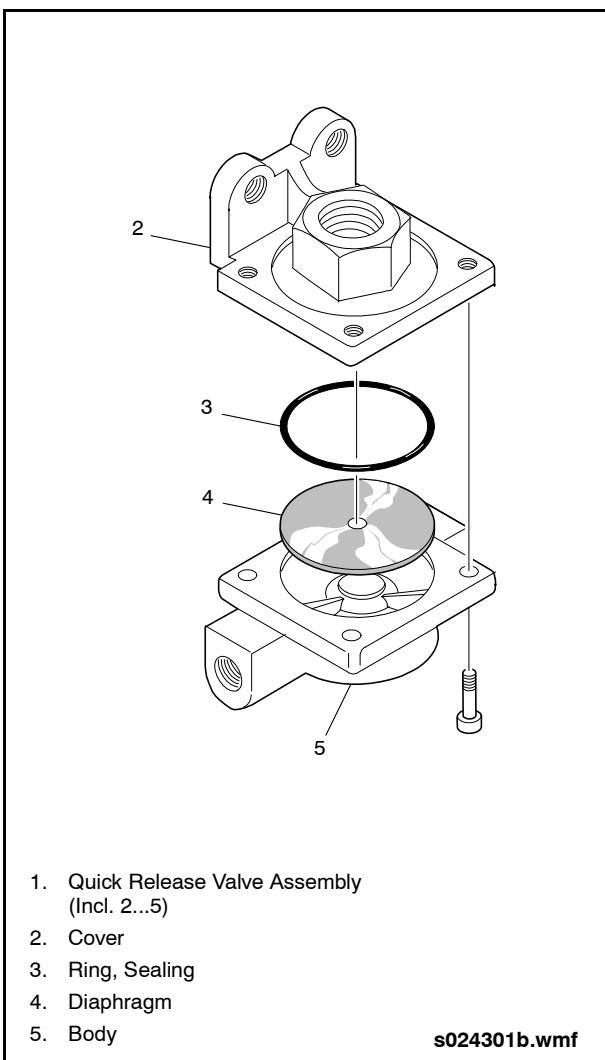

Fig. 8-21: QR-1 Quick Release Valve Assembly
2. Remove diaphragm. See "Fig. 8-21: QR-1 Quick Release Valve Assembly" on page 71.